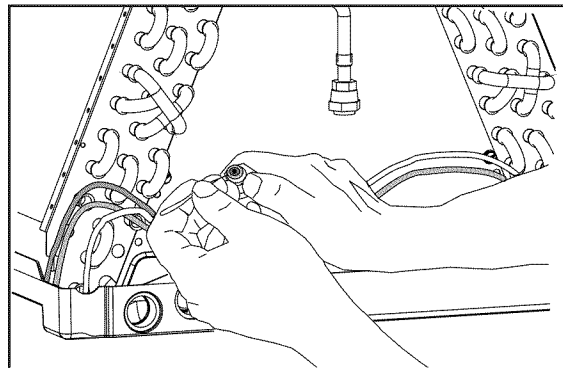

Figure 7. Removal of Orifice
3. Insert a light-gauge wire hook between the distributor body and the orifice to lift the orifice out of the body (See Figure 7).